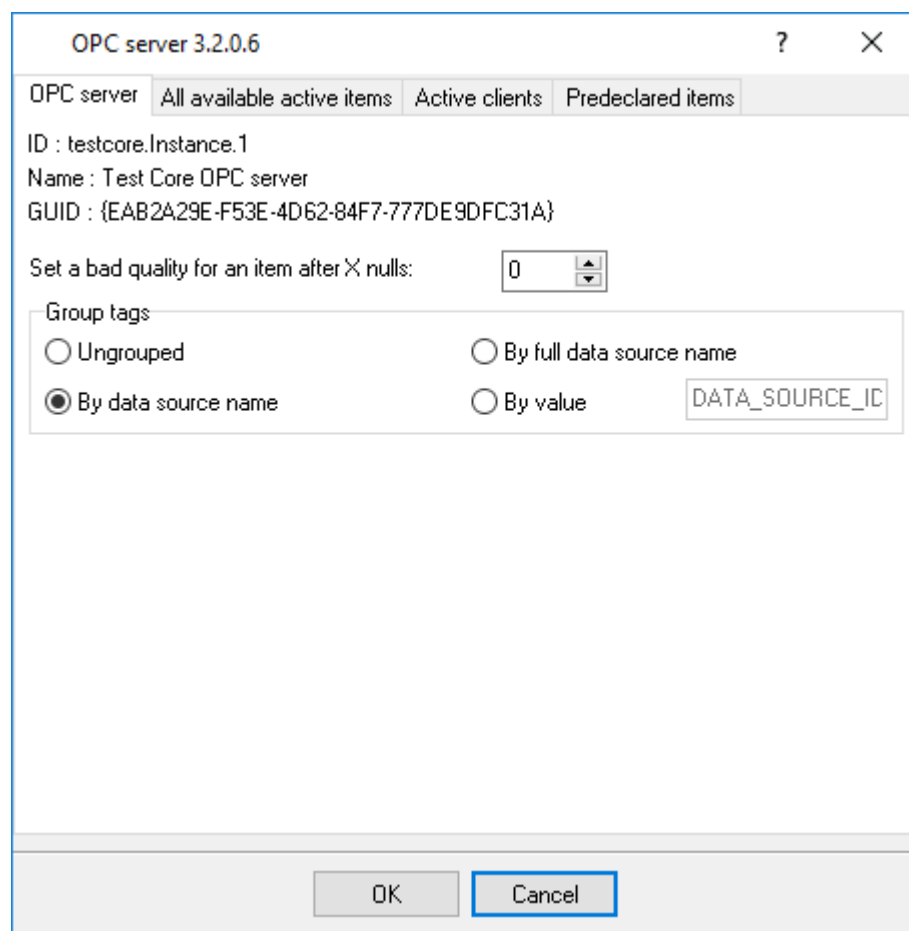

Fig. 23. OPC server parameters
- **Events handling** (fig. 23) - these plugins are used to handle events generated by the GPS Tracker Data Logger software. Once an event occurs (for example, "Data source is opened" or "Configuration changed"), the plugin creates a text message using the specified template, sends a notification, does some actions, executes a program or a script, etc. The form of the notification or actions depends on the plugin settings.
GPS Tracker Data Logger has an internal OPC server. It means that any OPC compatible client application can get data from GPS Tracker Data Logger without any additional software. To connect to the OPC server, you need the server ID and name (fig. 23). Before using the OPC server on your computer, you should download and install the OPC Core Components Redistributable from [www.opcfoundation.org](http://www.opcfoundation.org) (registration required).